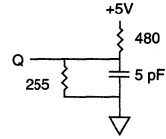

Fig. 2 OUTPUT LOAD EQUIVALENT
6. ^tHZCE and ^tHZWE are specified with C_L = 5pF as in Fig. 2. Transition is measured ±500mV from steady state voltage.